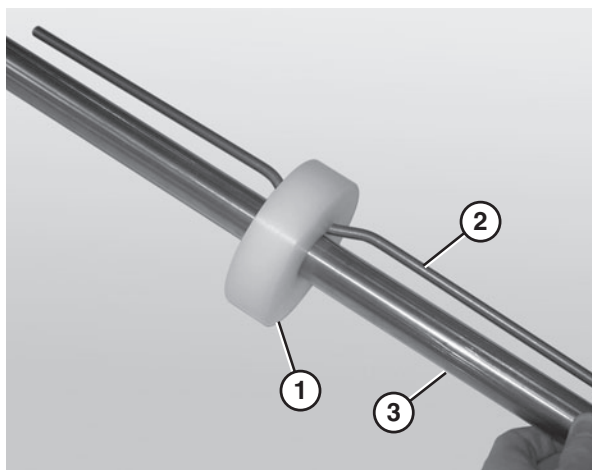

Figure 75
1. Place the idler puck (**Figure 75, item 1**) at the center of the bent retaining bar (**Figure 75, item 2**).
2. Slide the idler puck onto the idler shaft (**Figure 75, item 3**). Make sure to center the idler puck.